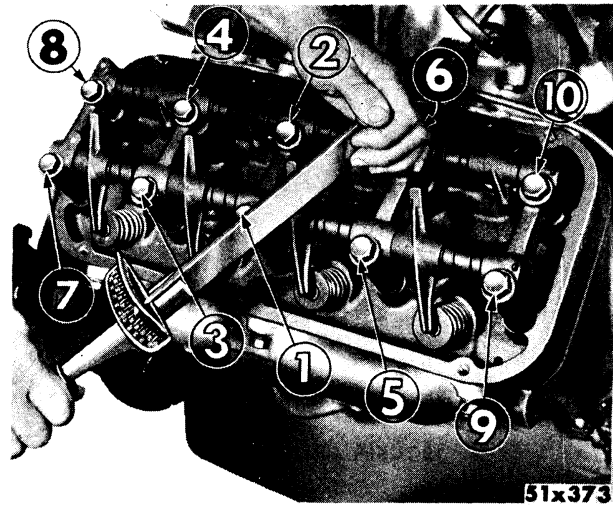

Fig. 157—Tightening Cylinder Head Bolts (Sequence)
- (12) Place rocker arm assemblies in position on the heads, lining up all push rods with their respective rocker arms. Starting at the top center, tighten all cylinder head bolts to 85 foot-pounds torque, as shown in Figure 157.